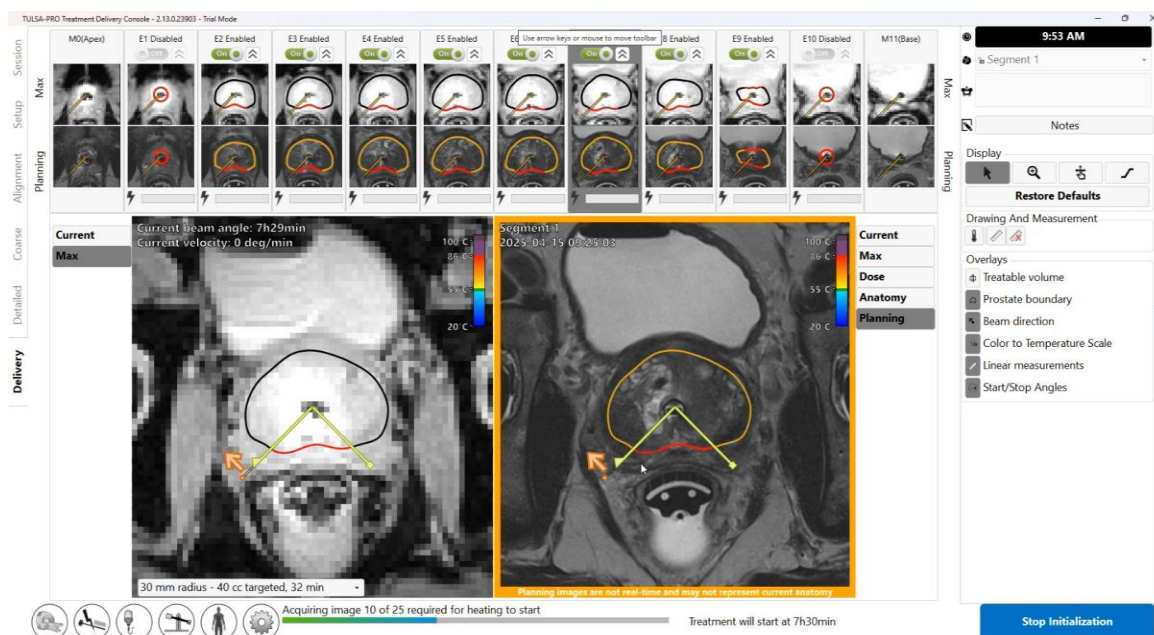

Figure 47: Treatment Initialization state
4. **Radiologist:** Click **Start treatment** on TDC. A window will prompt you to verify the core body temperature using an external temperature measurement device before proceeding (10). Enter the temperature in degrees Celsius and click **Confirm**. The software will enter **Treatment Initialization** where it will wait to receive thermometry images (Figure 47).